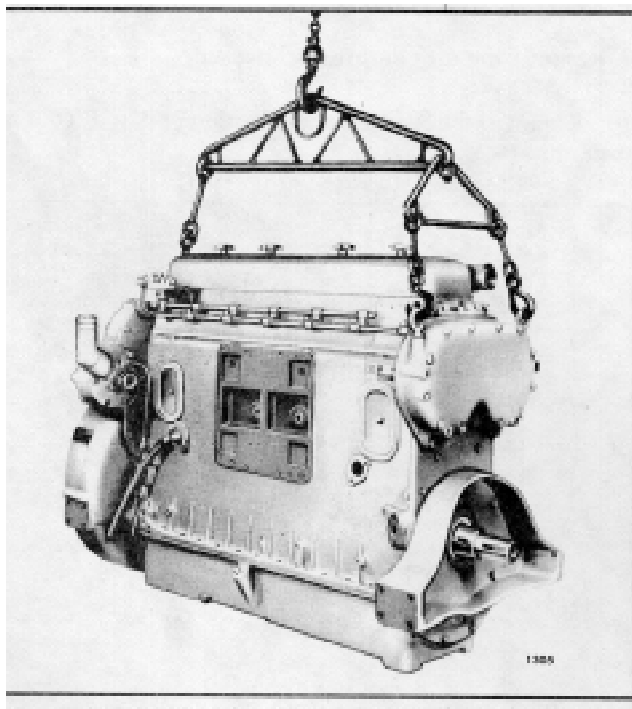

Fig. 6 Lifting Engine with Sling
15. Use a sling with a spreader bar (Fig. 6) and lift the engine from the chassis.